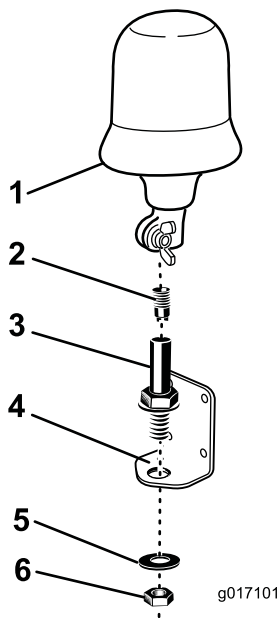

Figure 4
7. Mount the beacon assembly to the beacon bracket (Figure 4).
8. Plug the beacon onto the socket and tighten the wing nut (Figure 4).
4. Remove the beacon connector from the beacon socket (Figure 4).